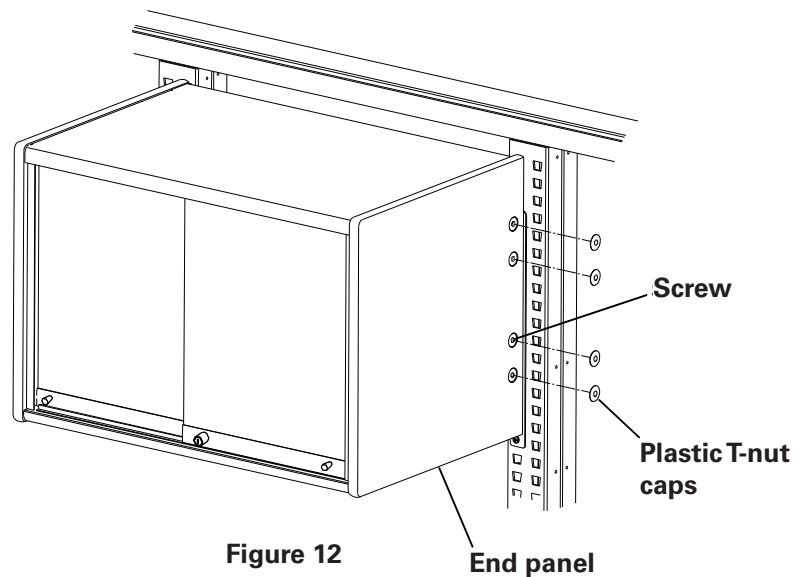

Figure 12
1. Install plastic T-Nut Caps to each End Panel as shown in figure 12. To install, push the caps over the ends of the screws and twist clockwise one full turn.